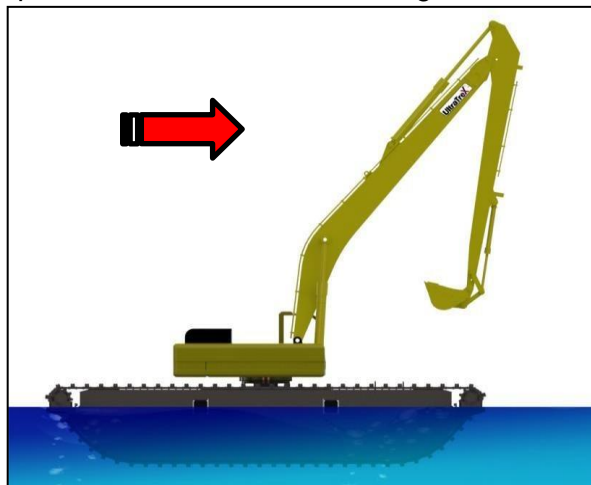

Figure 3.0: Traveling over water
1. When traveling on water, the operator must adjust the working attachments to ensure the stability of the amphibious excavator. Refer to Figure 3.0.